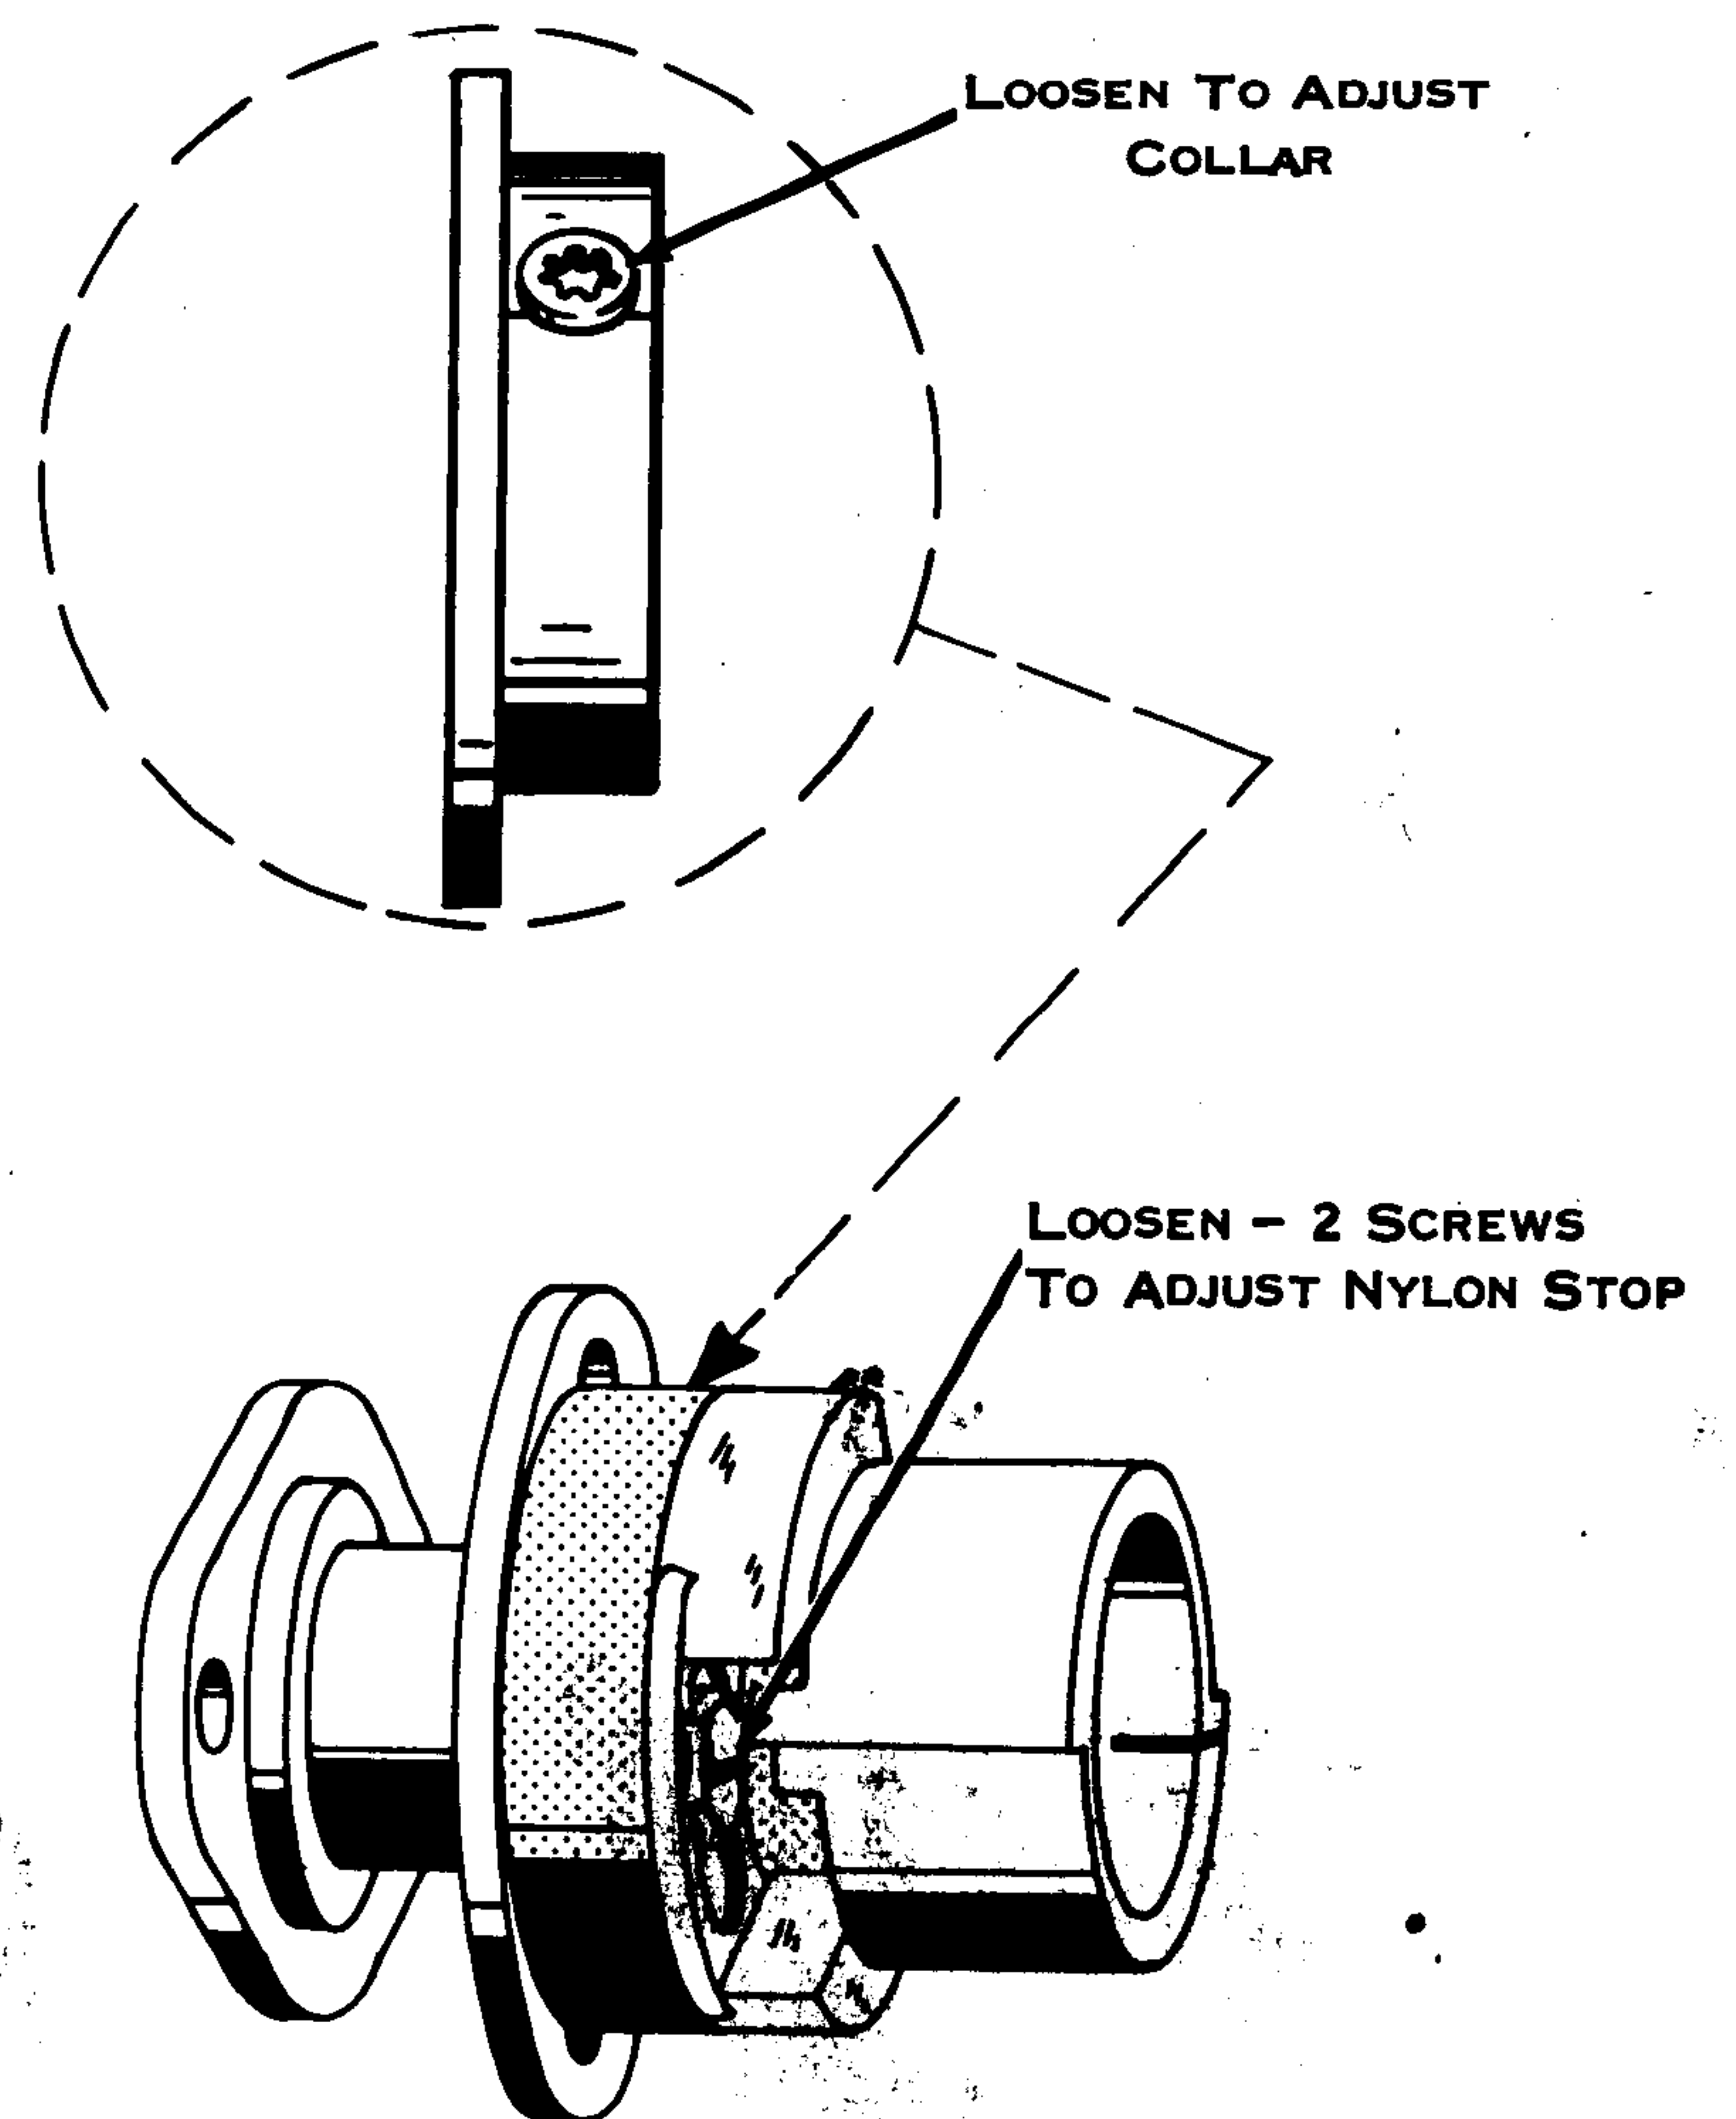

Figure 3. Cycle Clutch, Old Style
3. Two styles of cycle clutch mechanisms have been manufactured. Both old and new styles may be adjusted to the same specifications. See Figure 3 for adjusting screws on the old style mechanism.
5. Cycle Clutch Stop (Fig. 5) - Position the nylon stop to clear the sleeve by .007" to .015" with the cam shaft detented. Check Figure 3 for adjusting screws, old-style.